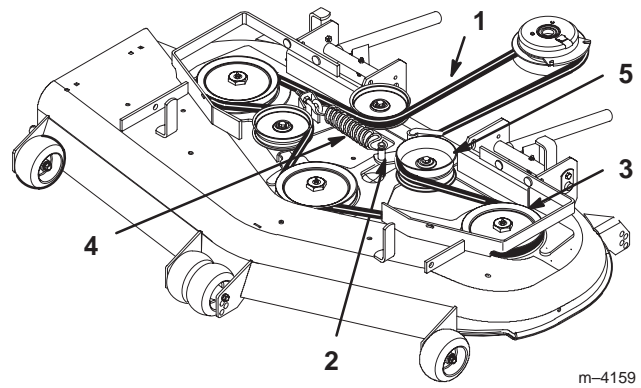

Figure 56
4. Remove belt. Start at outside pulley and rotate off (Fig. 56).
7. Reinstall idler pulley and route belt onto other pulleys (Fig. 56).